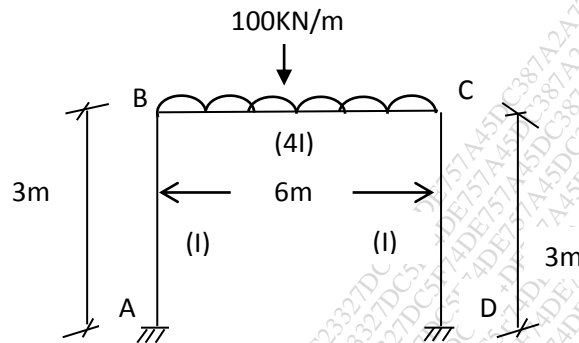

Fig. 5
Q.8 Analyze the portal frame shown in fig.5 by using Kani's method and draw BMD. 15